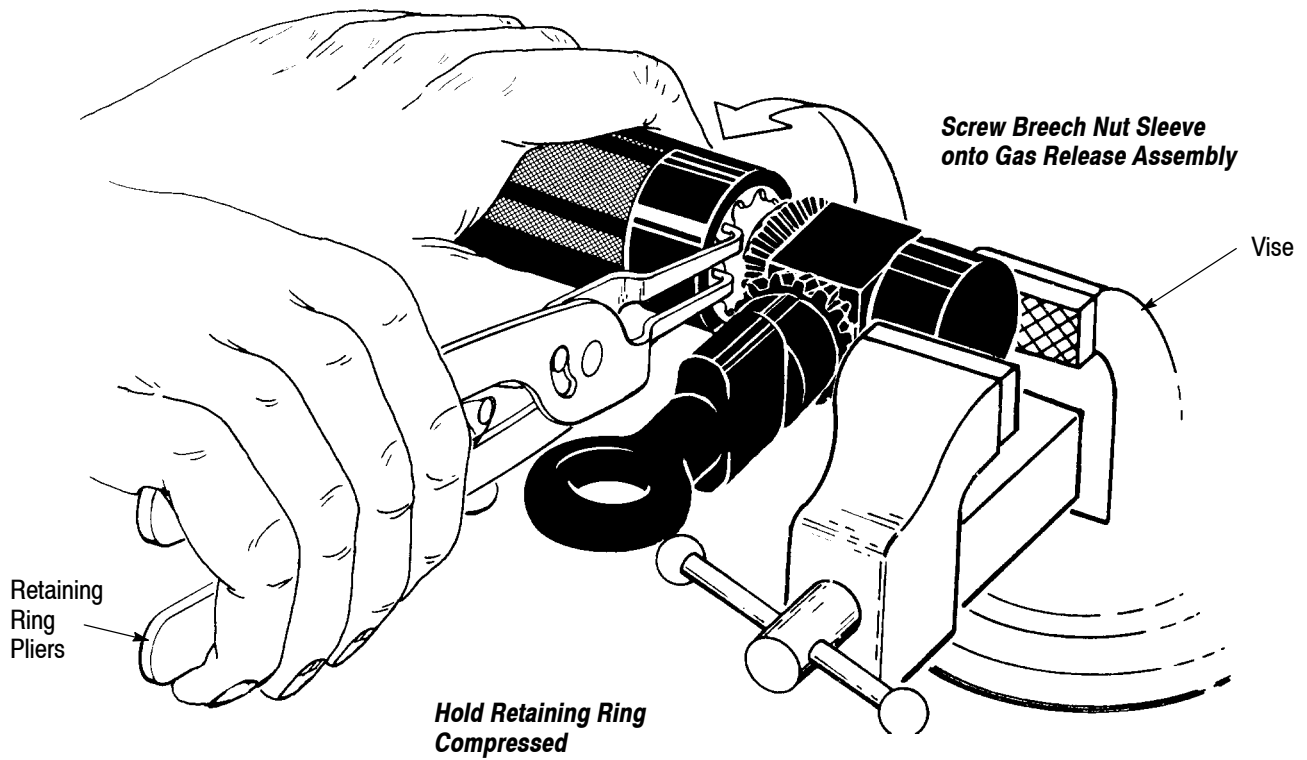

Figure 43
5. Clamp end of geared breech cap assembly in vise. Then with retaining ring compressed, screw the breech nut sleeve onto the gas release assembly. Release the retaining ring into the groove in breech nut sleeve. See Figure 43.